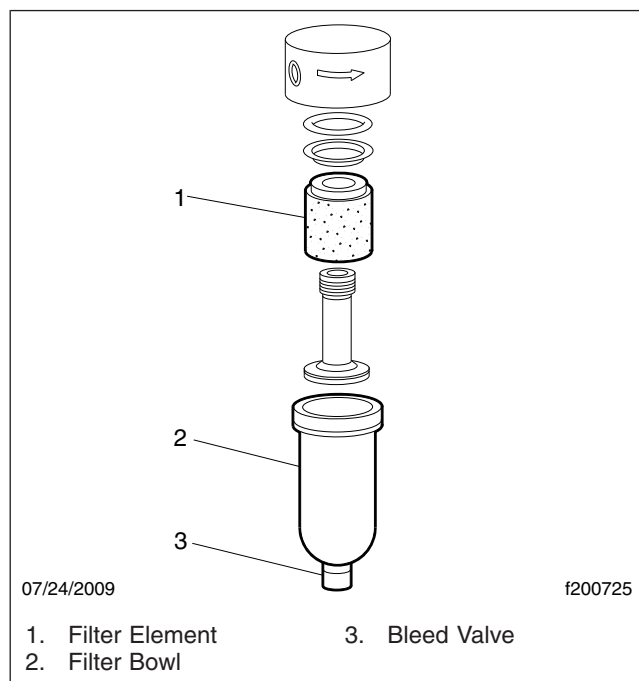

Fig. 5, Horton DriveMaster Solenoid Valve Air Filter
- 3.1 Unscrew the fan clutch solenoid valve air filter assembly and remove the filter element; see **Fig. 5**.